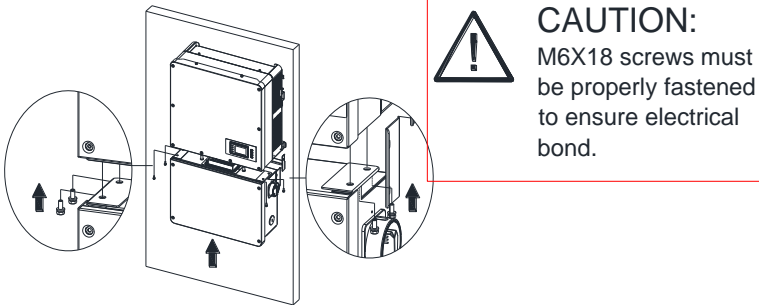

Figure 3-13 Installation of the Wiring Box
Step 4 Secure the wirebox to the main enclosure by using the **M6x18 screws** (4pcs) to fasten the wirebox. (see Figure 3-13). Tool required: No.3 Phillips head screwdriver or 10mm Wrench, torque value of 4 N.m (35.4in-lbs)